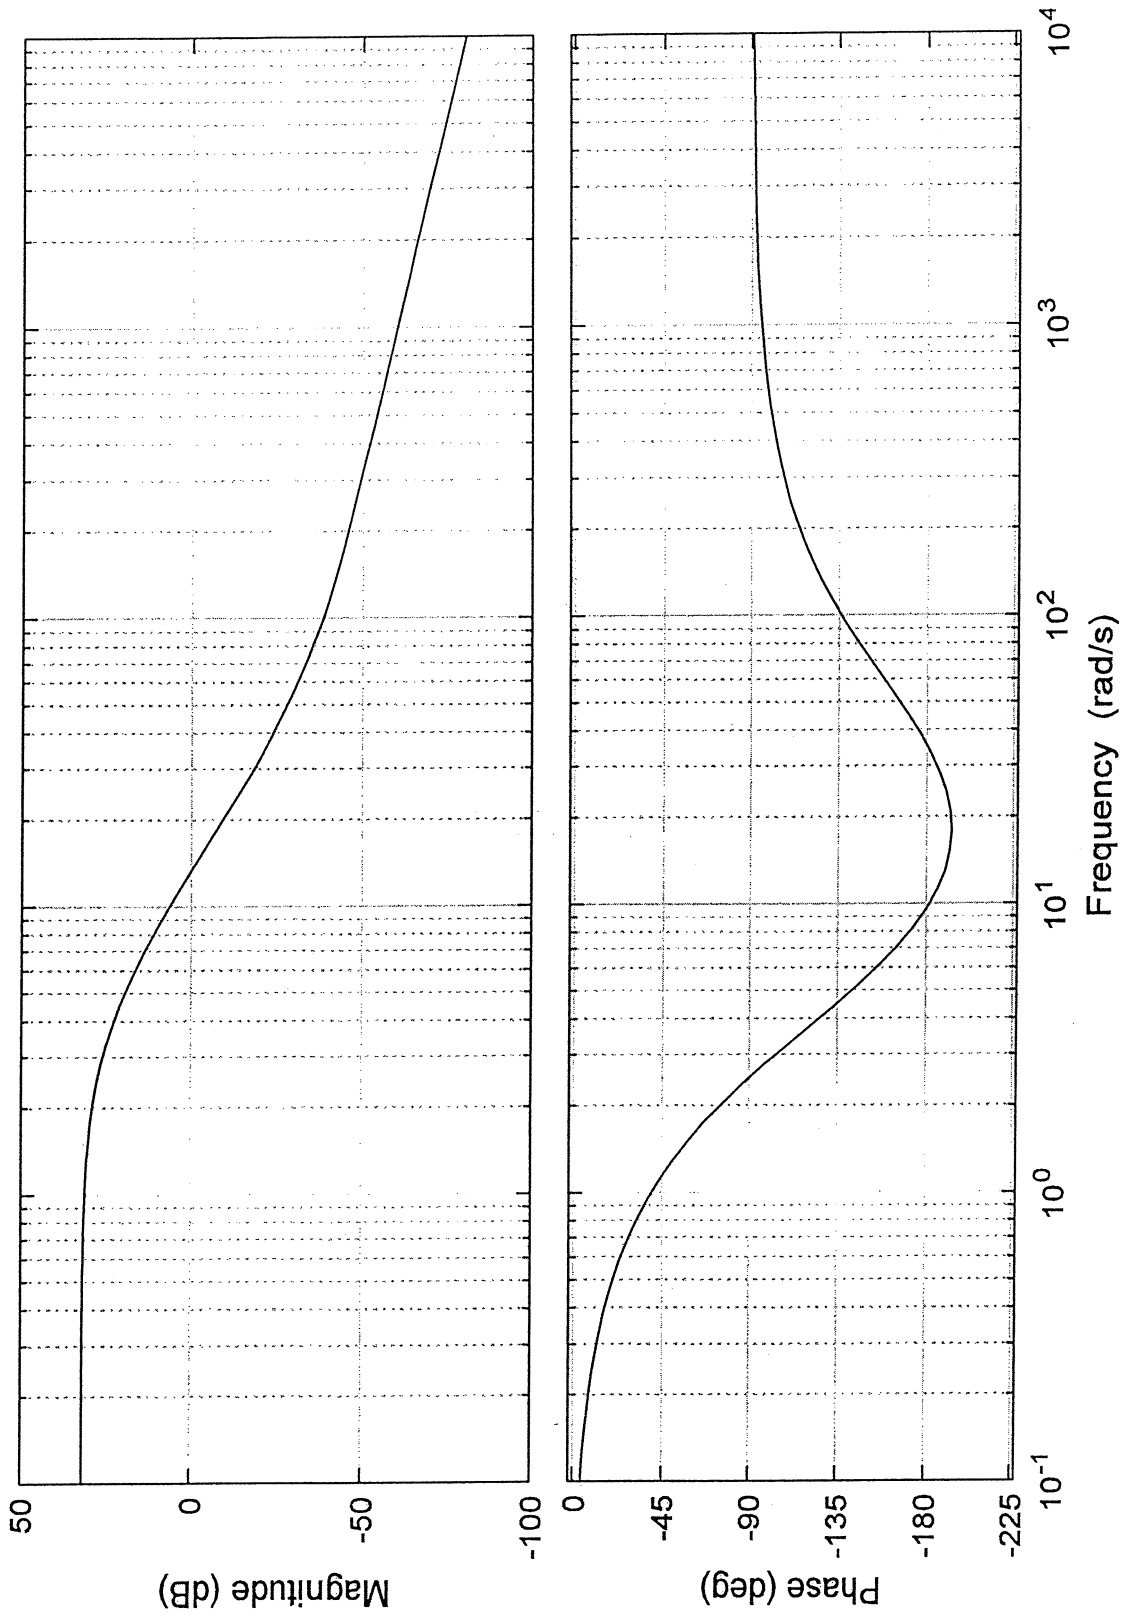

Figure Q2.3 – Frequency Response of G(s) in Question 2
- 2) **(4 marks)** The frequency response (Bode plot) for the process $G(s)$ is shown in Figure Q2.3. Use it to verify the above calculations of the critical value (or values) of the gain, K_{crit} , and the corresponding frequency (or frequencies) of marginally stable oscillations, ω_{osc} .